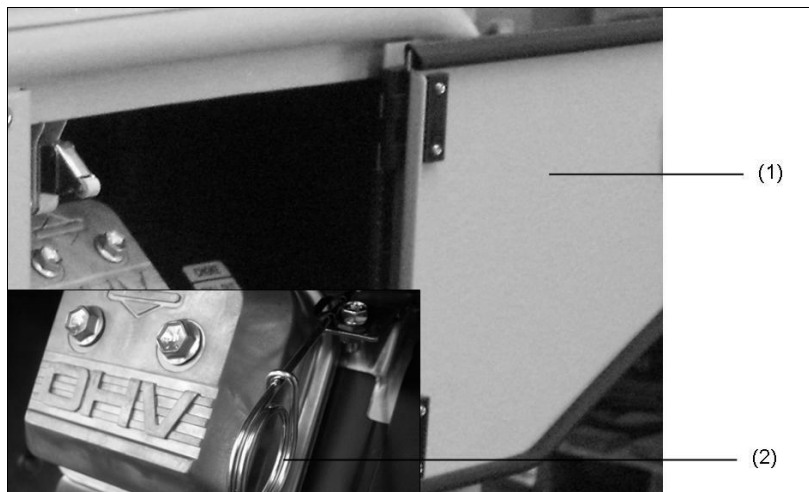

Fig. 4-1: Actuate manual choke
1. Open the flap side (see Fig. 4-1-(2)).
2. Pull on the manually-operated choke (Fig. 4-1-(2)) (completely for a cold engine / appropriately less for a warm engine) and hold firmly.
4. Bring the choke (*Fig. 4-1-(1)*) into the basic position again.
1. Open flap side (*Fig. 4-1-(1)*).